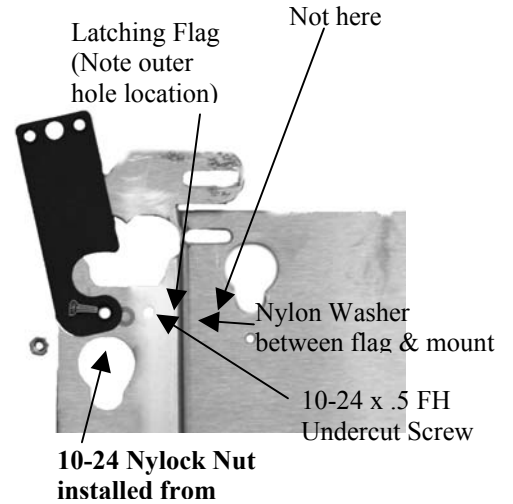

Figure 7
2. Secure latching flag to Plasma Static Mount using .250" OD x .1875" ID x .0312" Nylon Washer, 10-24 x .5 FH Undercut Screw, and 10-24 Nylock Nut (See Figure 7).